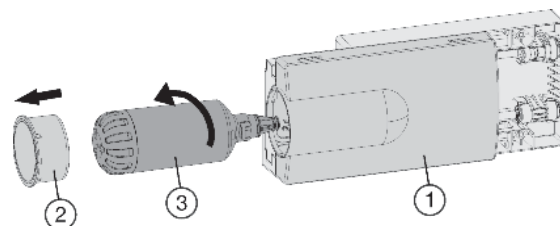

Fig. 7
- ▶ Pull out the tray Fig. 7 (1), if necessary.
- ▶ Remove the filter cover Fig. 7 (2).
- ▶ Turn the water filter Fig. 7 (3) approximately 100° counterclockwise and pull it out.